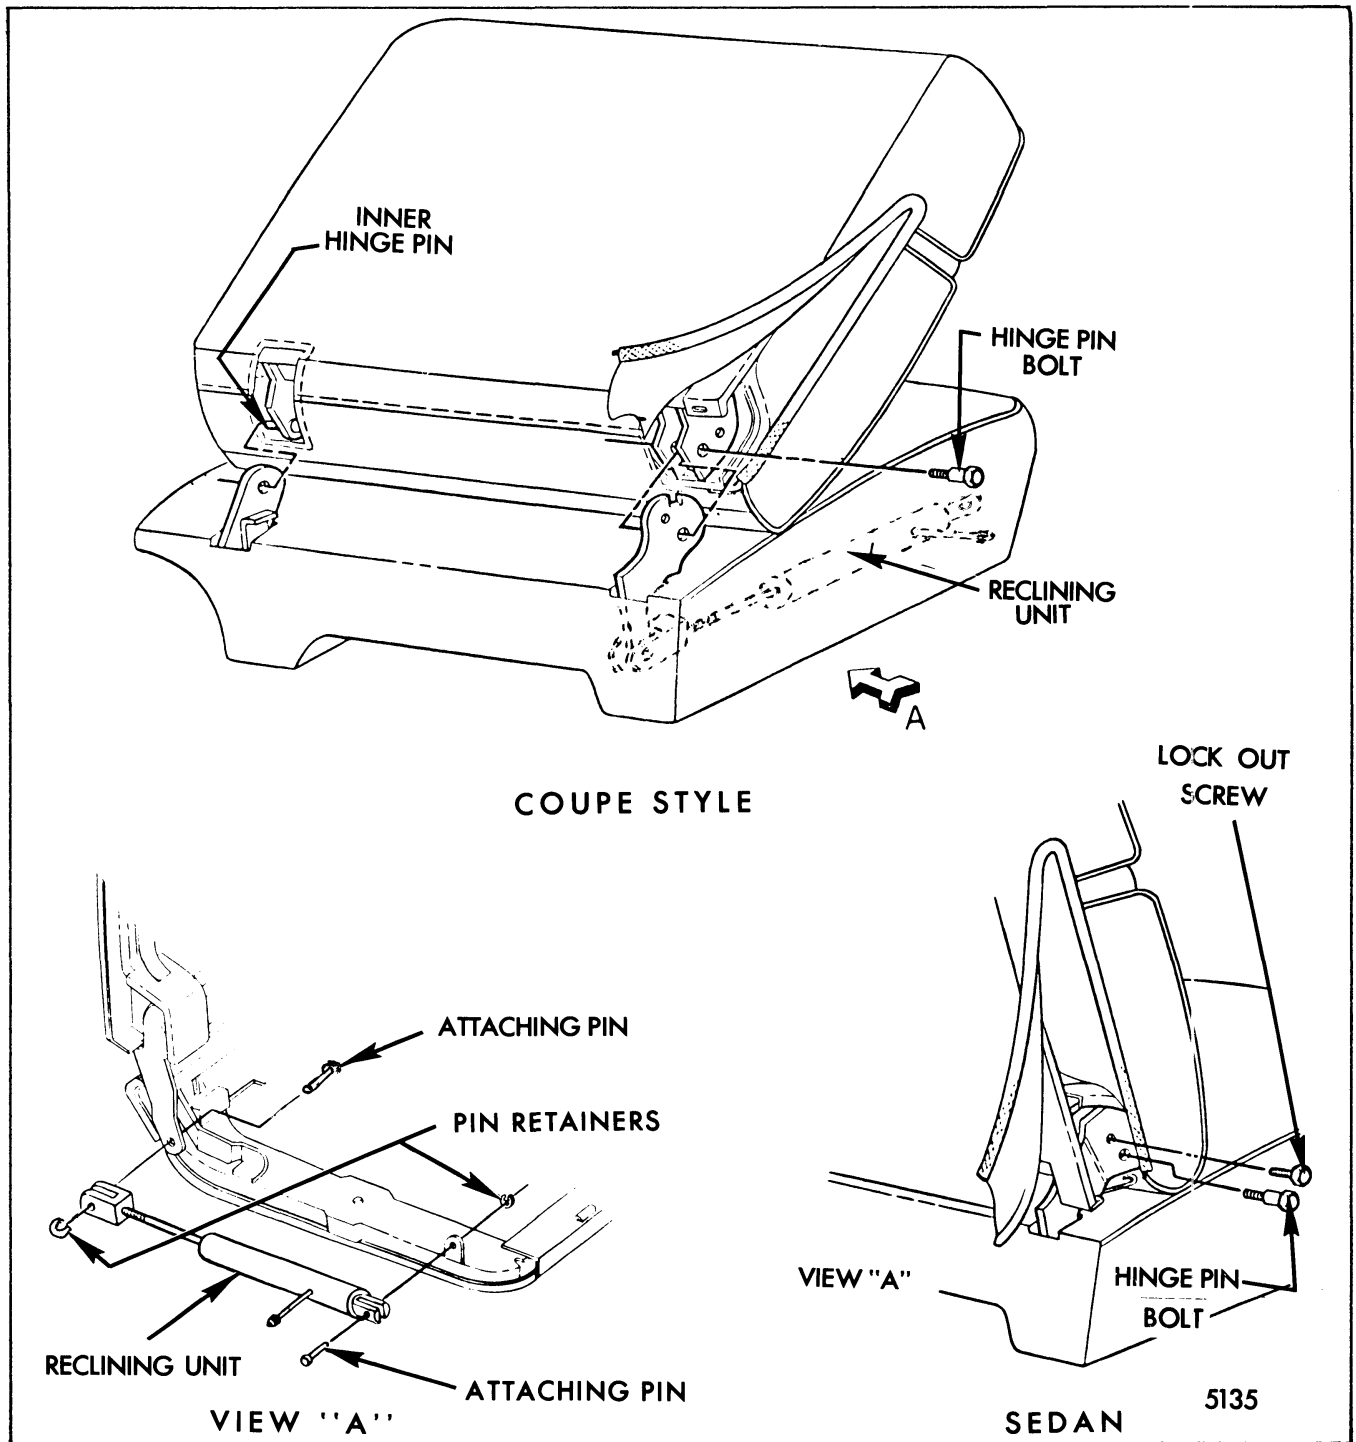

Fig. 9-35-Front Seat Back - 50-50 Seat
2. Detach seat back trim at outer side facing (see Fig. 9-35) sufficiently to remove seat back attaching bolt and on four-door styles seat back lock-out bolt (see Fig. 9-35).
3. Move seat back outward sufficiently to disengage inner pin from cushion frame support (see Fig. 9-35); then, remove seat back from seat cushion.